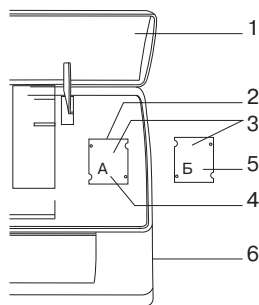

Рис. 2
Indoor unit control cable connection (20) (fig. 2)
- 1) Remove the cover (3) from the indoor unit (7) to access the terminal block (2);
- 2) When connecting the wires to the indoor unit terminal block (2), follow the annexed connection diagram (see. Annex 1);